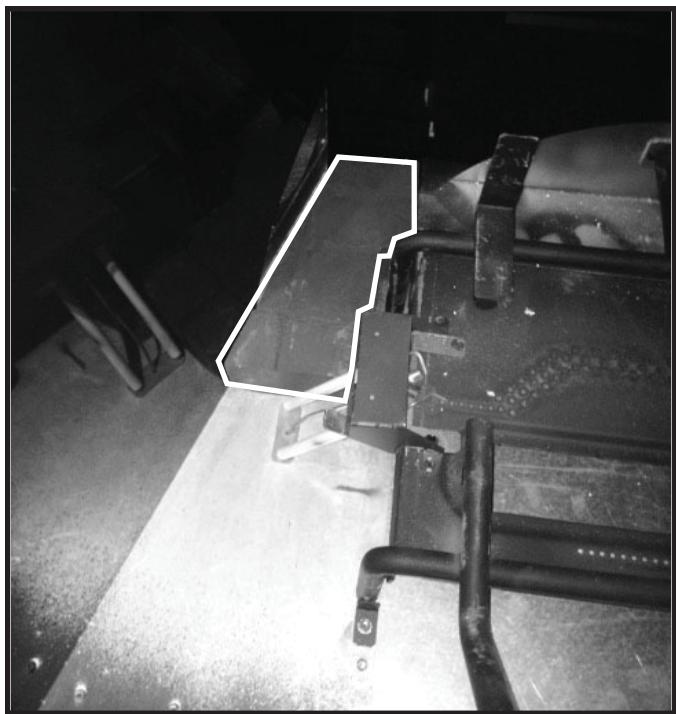

Figure 14. Left Rear Base Refractory
- Place left rear base refractory into appliance as shown in Figure 14. Rotate refractory into position by placing right edge of part on firebox bottom, pulling tight to the grate leg matching cut with leg and dropping left side of refractory piece into place.